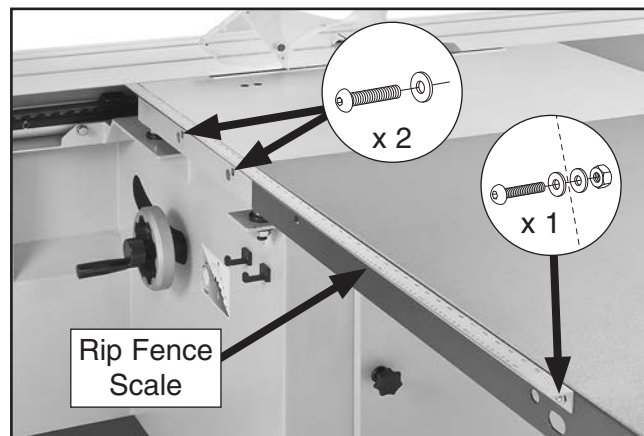

Figure 31. Rip fence scale attached flush with top edge of cast-iron table and large extension table.
17. Attach rip fence scale flush along top edge of cast iron table and large extension table (see **Figure 31**) with (3) M6-1 x 12 button head cap screws, (4) 6mm flat washers, and (1) M6-1 hex nut.